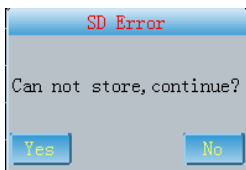

Fig. 7-29
(1) when the case is being printed in the 1x12、1x12+1、2x6、2x6+1、3x4 mode, if there is no SD card, the dialog box as Fig.7-29 will appear to prompt users the case can't be stored if print continues.